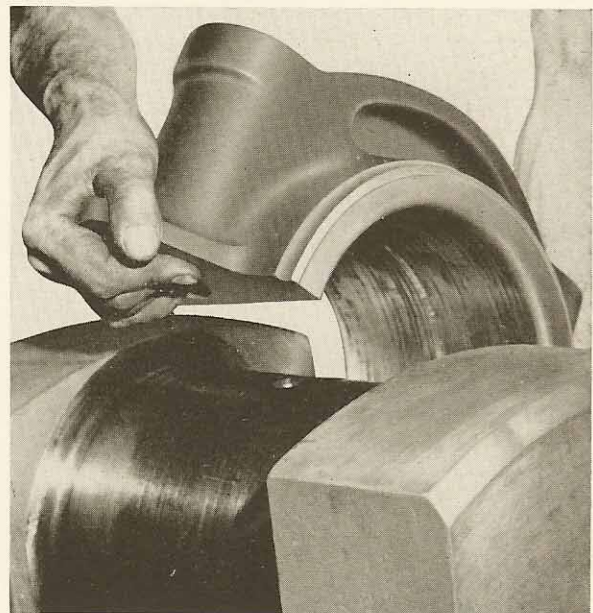
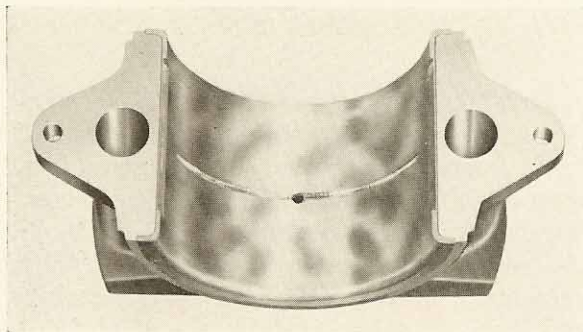

FIGURE 13-6
FIGURE 13-7
5. FITTING A BEARING: The ability to fit a bearing properly comes only from experience but we will point out what is wanted in the finished job and rely on the operator's own good judgment to achieve the requirements as nearly as possible. The object of bearing fitting is to obtain a sure contact between the majority of the babbitt area on the bearing and the surface of the crankpin. If $\frac{3}{4}$ of the babbitt touches the crankpin, a bearing is considered well fitted. The spare crankpin bearing will be bored and machined to within a few thousandths of an inch of size. Coat the crankpin very lightly with Prussian Blue. Press down on the bearing half as shown in Figure 13-6 and move to and fro several times. Lift off the bearing half and the babbitt will probably look like Figure 13-7.